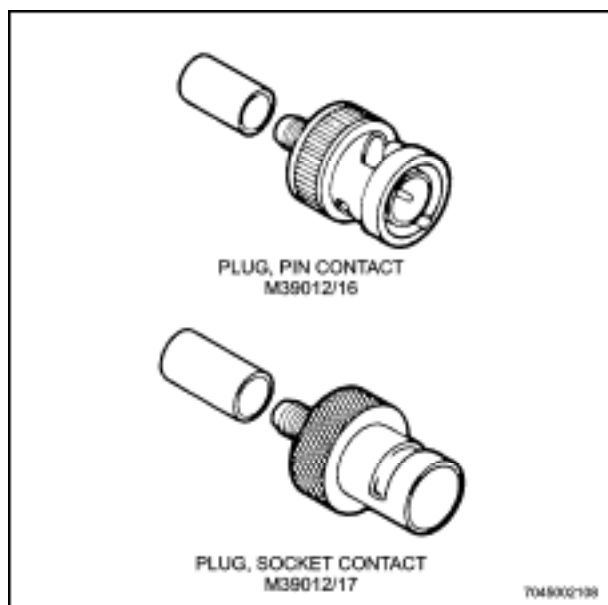

Figure 12-2 Typical BNC Connectors
- b. Category C - Solder centre pin or socket crimp ferrule. See Figure 12-2.
- c. Category D - Crimp centre pin or socket, crimp ferrule. See Figure 12-2.
- a. **BNC Series.** A small, lightweight, bayonet type, quick-connect/disconnect connector, used with small coaxial cables, where peak voltage is not more than 500 volts. (See Figure 12-2.)